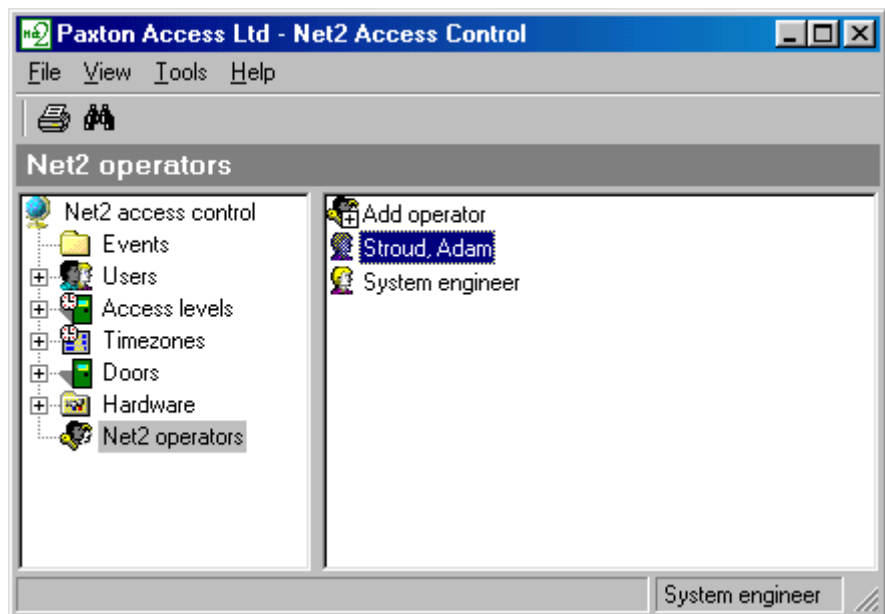

Figure 4.3
1. Double click on the desired operator, see figure 4.3.